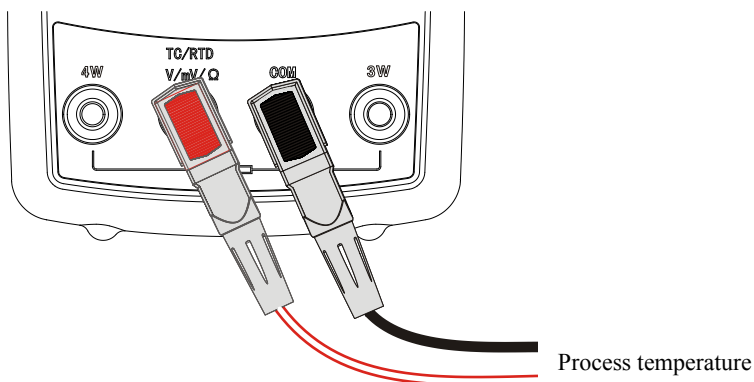

Figure 4.1-1
1. Connect the thermocouple to the calibrator as shown in Figure 4.1-1: